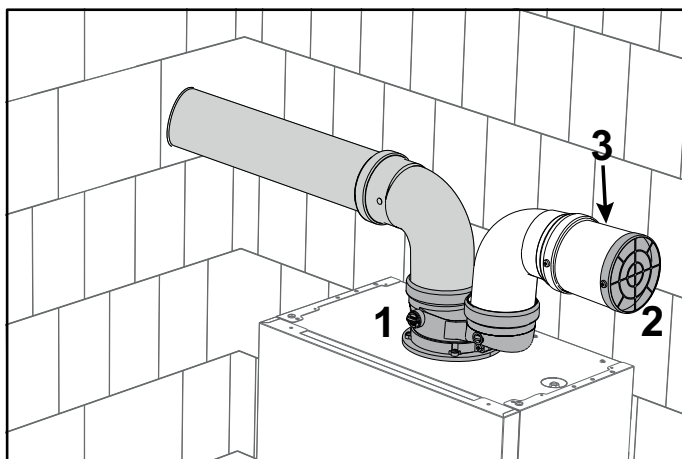

fig. 31- Protection grille
Install the starting accessory (ref. 1fig. 31 - code **041101X0**). The protection grille must be mounted in the intake duct (ref. 2 - fig. 31 - code **1KWMA85A**). If necessary, insert a short piece (3) between the grille and the accessory.